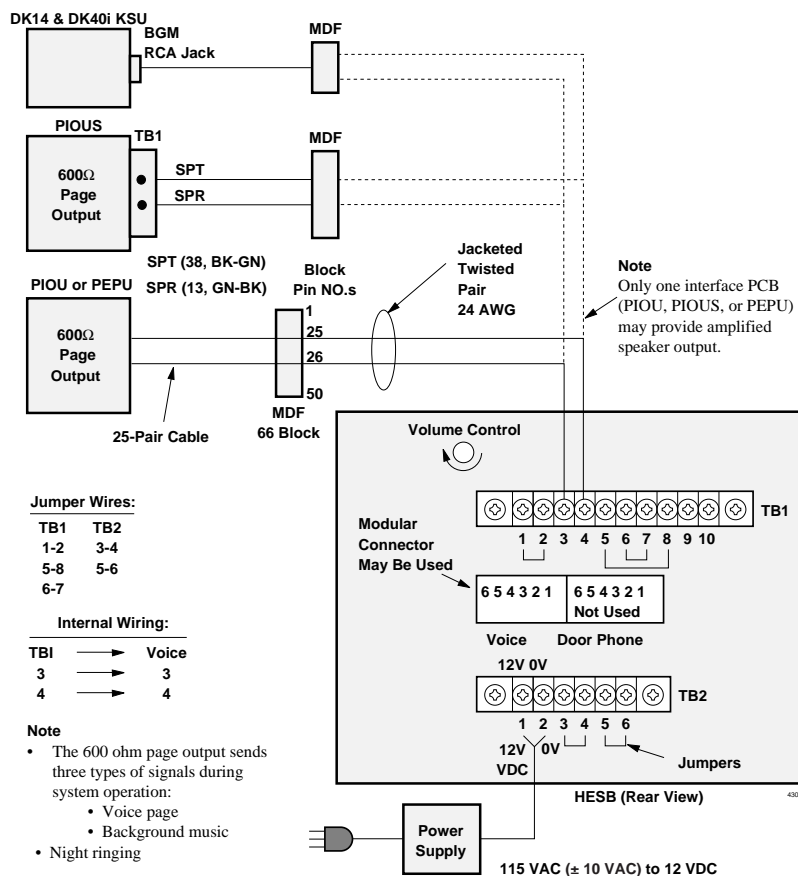

Figure 10-13 HESB/Amplified Speaker Wiring
1. Connect a jumper between terminals 1 and 2 of the HESB TB1 terminal block (see Figure 10-13).